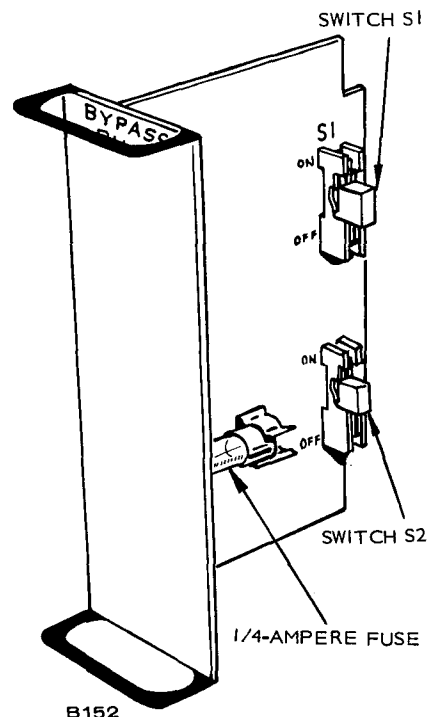

FIGURE 24. BYPASS PLUG MODULE
8. Set switches S1 and S2 on the bypass module to the correct position (instructions on bypass module printed circuit board) for the particular bypass and insert the module. See Figure 24.